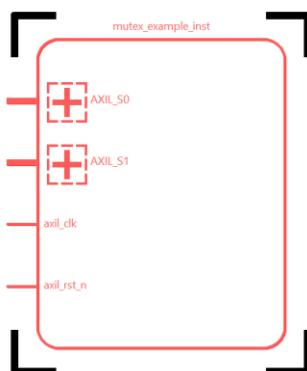

Figure 3.5. Generated Instance
6. The Mutex IP instance is successfully generated, as shown in Figure 3.5.